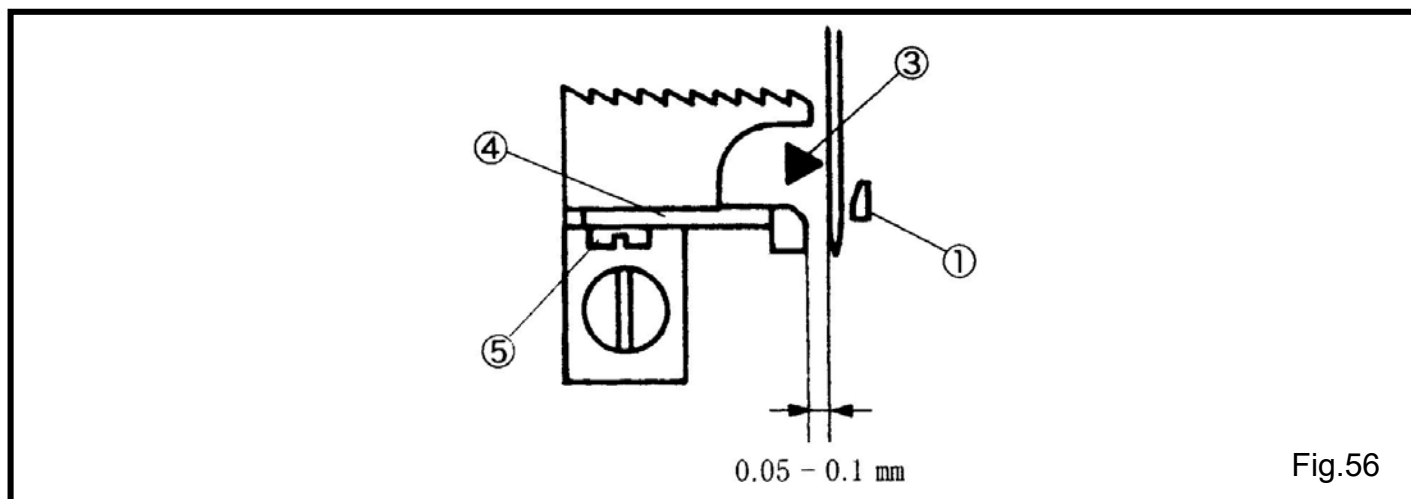

Fig.56
當後針檔④和針最靠近的時候，要有 0.05-0.1mm 的間隙。由螺絲⑤去調整。(Fig.56)
Make the standard clearance between the needle guard (rear) ④ and the left needle to 0.05-0.1 mm when they meet most closely. Open the looper cover and loosen the screw ⑤ to adjust it. (Fig.56)